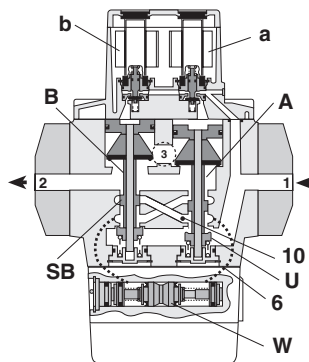

Figure 6 – Faulted Mode with One Valve Element Open and One Closed
If conditions do not allow one of the main valve elements to be shifted, or do not allow one of the elements to return to its normally closed position upon de-actuation, we have the condition depicted in Figure 6 — one valve element closed and one open. Inlet air flowing past open poppet U and into crossflow passage 10 is substantially blocked by spool SB on valve element B. Although some air can pass around the spool SB, the amount is so small, and the exhausting capacity of the valve so large, that the pressure at outlet port 2 does not exceed two per cent of inlet pressure.
**Valve Exhaust 3.** **DO NOT RESTRICT THE EXHAUST.** Limiting the exhausting speed decreases an important safety feature of the double valve. During a malfunction in which only one of the valve elements has shifted, air escaping past the spool in the valve stem of the closed valve element (see Figure 6) must be quickly exhausted to keep outlet pressure at or below the design pressure of two per cent of inlet pressure. Therefore, use only a properly sized and designed silencer.